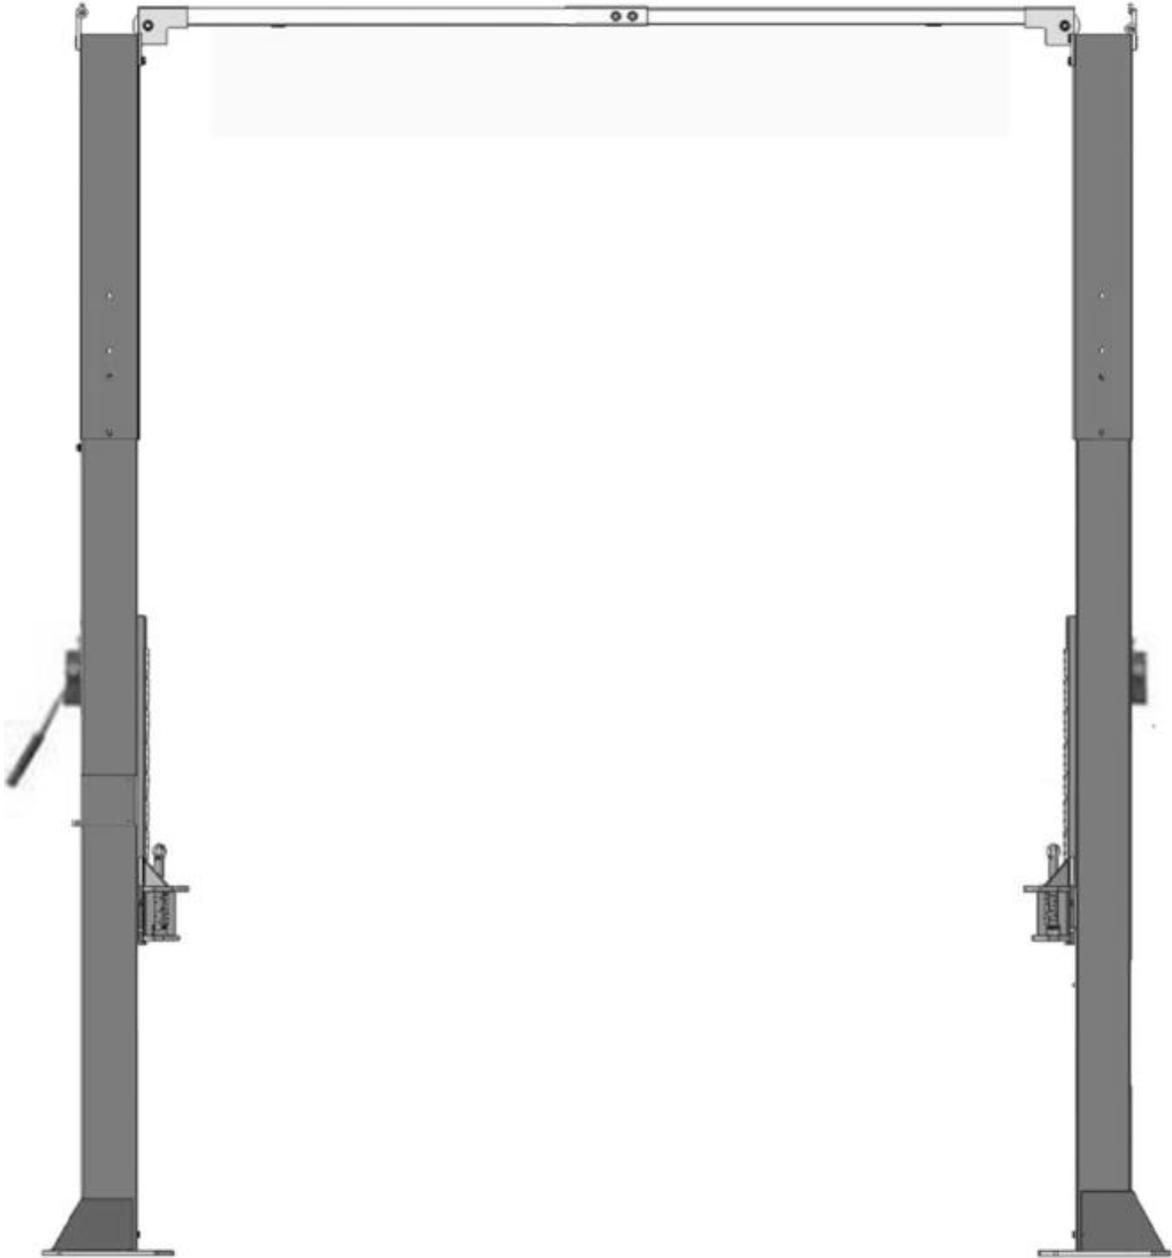

Fig. 26
I. Lift the carriages up and make them be locked at the same level (See Fig. 26).